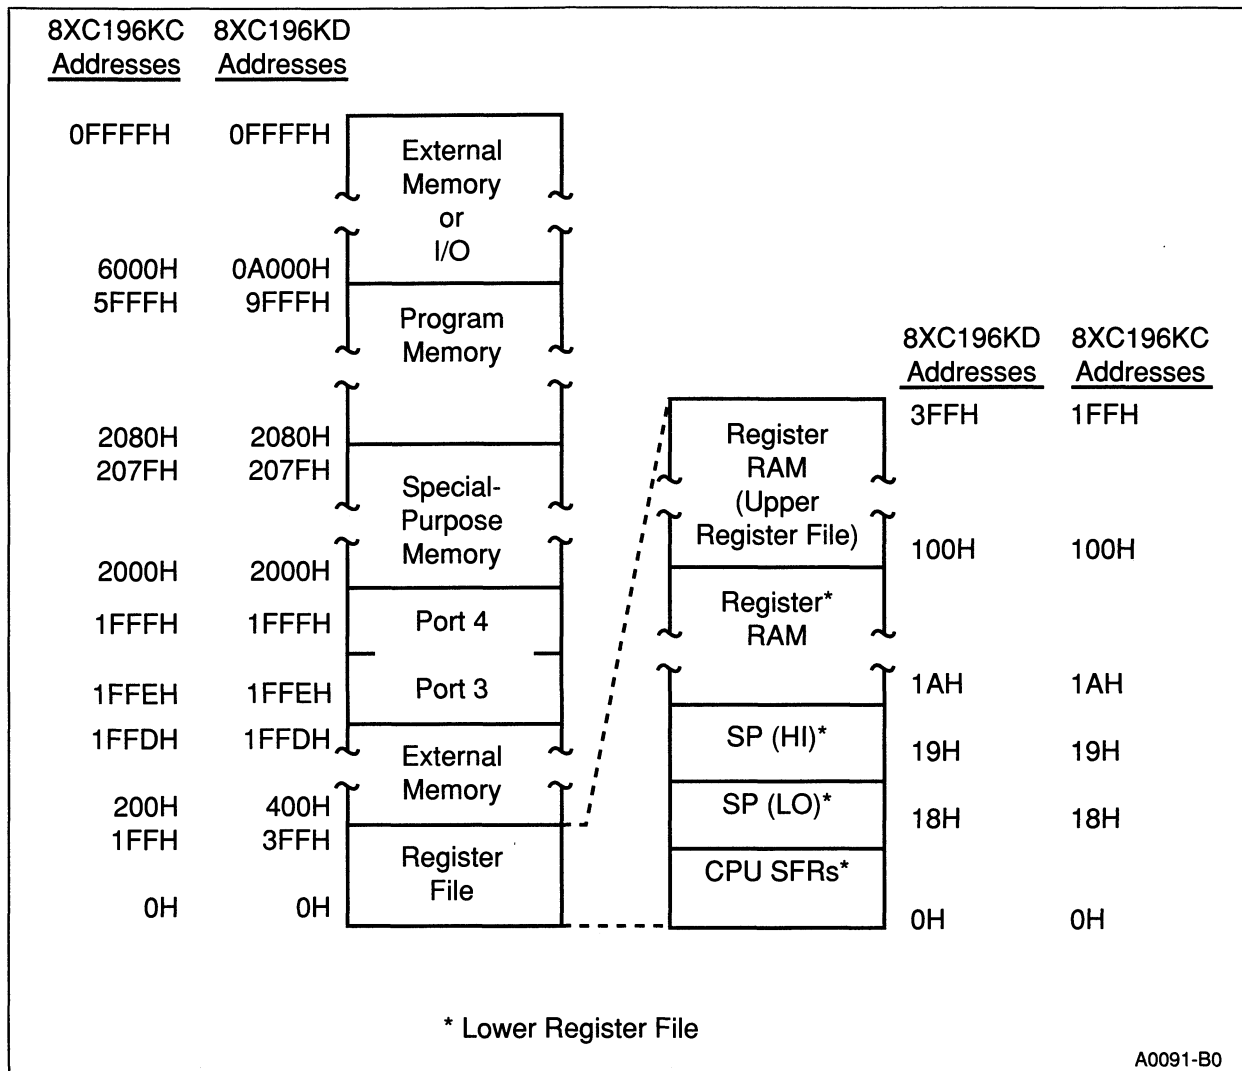

Figure 4-3. Register File Memory Map
The Register File is divided into an upper and a lower Register File (see Figure 4-3). The upper Register File contains general-purpose register RAM. The lower Register File contains general-purpose register RAM, the Stack Pointer (SP), and CPU Special Function Registers (SFRs). Table 4-3 compares the 8XC196KC and 8XC196KD Register File memory addresses and provides beginning and ending addresses in both hexadecimal and decimal.